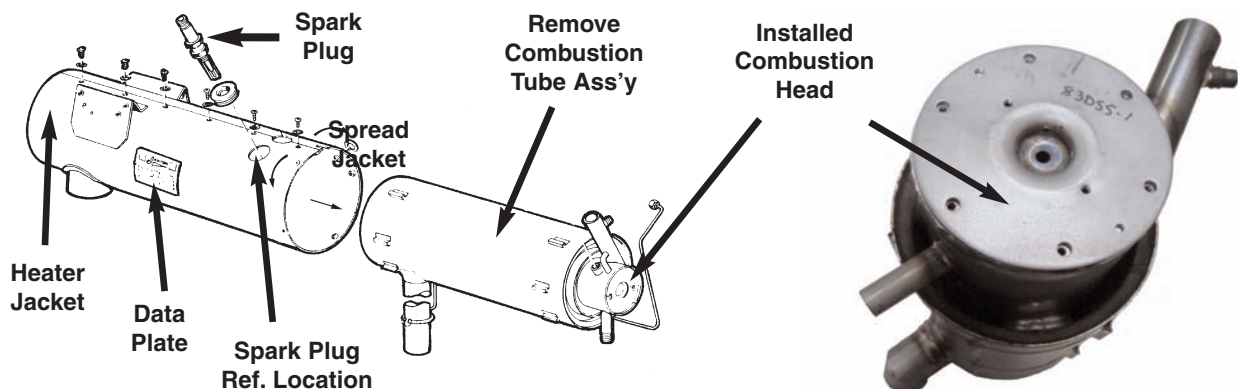

Fig. 2 - Remove Combustion Tube Assembly (typical)
- (1) To overhaul any HET/Janitrol heater, it is required that it be removed from the aircraft or rotorcraft. Removal from the aircraft is required for upgrade to the I-Series in accordance with this SB.
- (2) Preparing to upgrade the B-Series heater:
- (3) Following the disassembly steps in the HET 24E25-1 or 94E47 Heater Overhaul & Maintenance manual as applicable, carefully remove the required hardware and components necessary to open the jacket and remove the combustion tube assembly. (Refer to Fig. 2.)